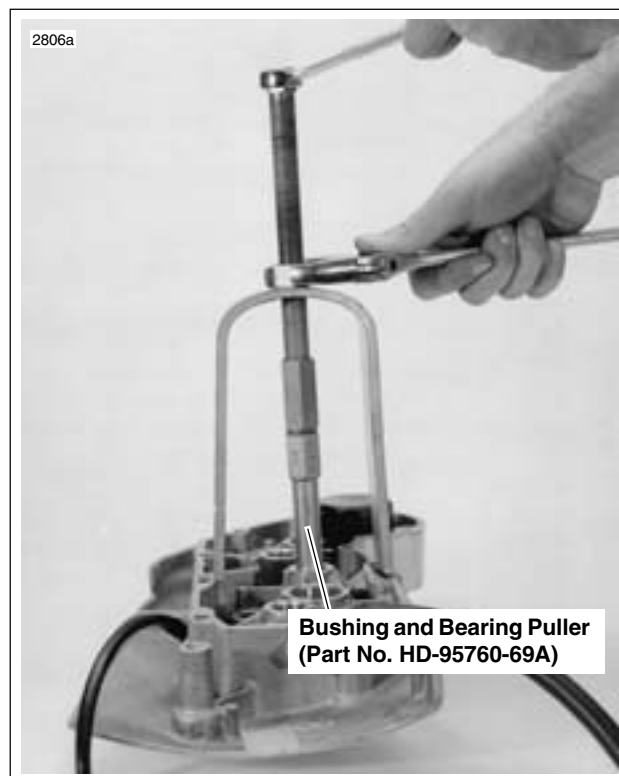

Figure 3-64. Removing Bushing
2. See Figure 3-64. Use a BUSHING AND BEARING PULLER (Part No. HD-95760-69A) to remove bushings from gearcase cover and crankcase.